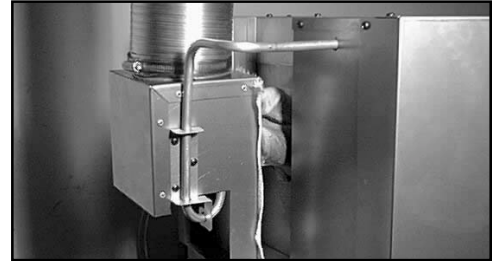

Figure 9 - Installation of Surround Hood
- 2) For zero clearance fireplaces or fireplaces with combustible material within 12 inches of the firebox opening, it is required to use the surround hood (black). This hood is not required for masonry fireplaces. To install the surround hood, bend the tabs down, as shown in Figure 9. Place the tab through the slots in the surround top and bend the small tab over. See Figure 10.